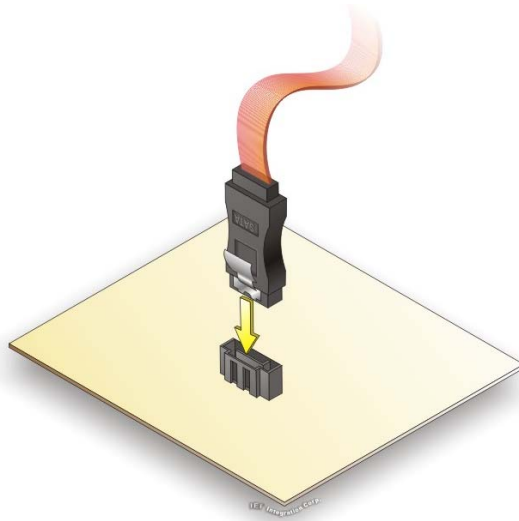

Figure 4-9: SATA Drive Cable Connection
Step 2: **Insert the cable connector** into the on-board SATA drive connector. See **Figure 4-9**.